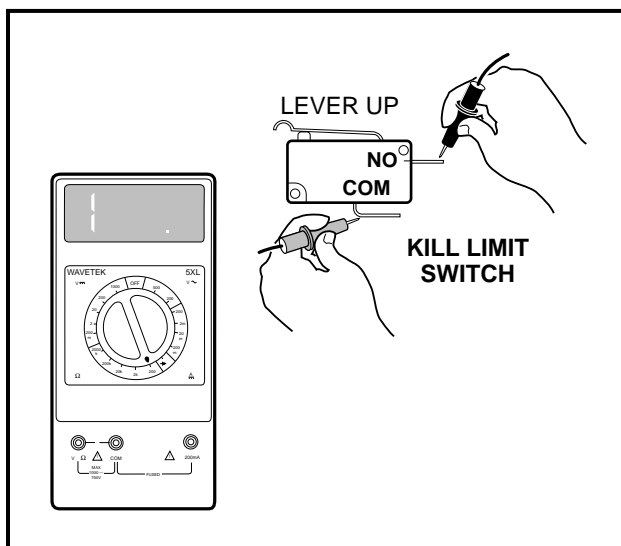

Figure 11-41 Test Kill Limit Switch
3. Disconnect wires from the limit switch and test the limit switch for continuity. Place the red (+) probe of the multimeter on the common (COM) terminal (white/black wire) of the limit switch. Place the black (–) probe on the normally open (NO) terminal (black wire) of the limit switch. Without the lever depressed, the reading should be **NO** continuity. Depress the lever, and the reading should be continuity. If either reading is incorrect, replace the limit switch (**Figure 11-41, Page 11-31**).